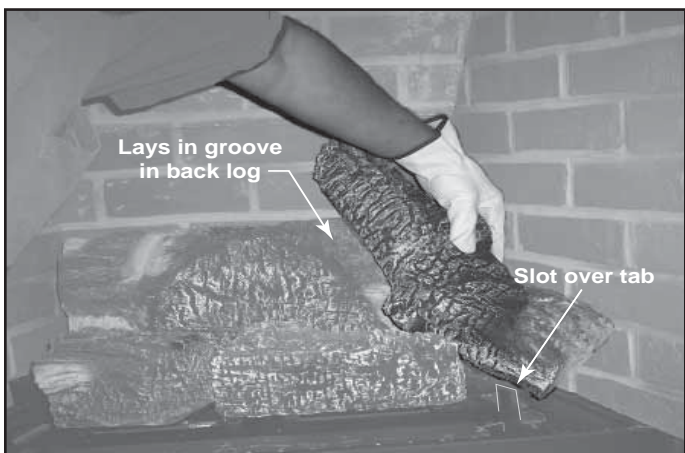

Figure 15.10 Position Log #4061-174
- Place this log in the right-hand groove in the back log and the tab as shown. See Figure 15.10.